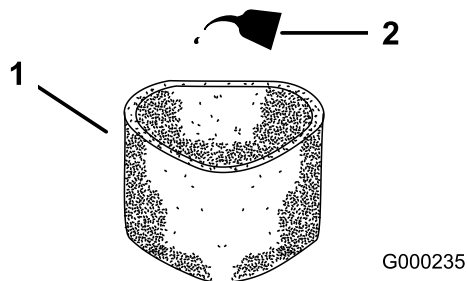

Figure 25
- C. Soak the element in new engine oil (Figure 25). Squeeze the element to remove excess oil.